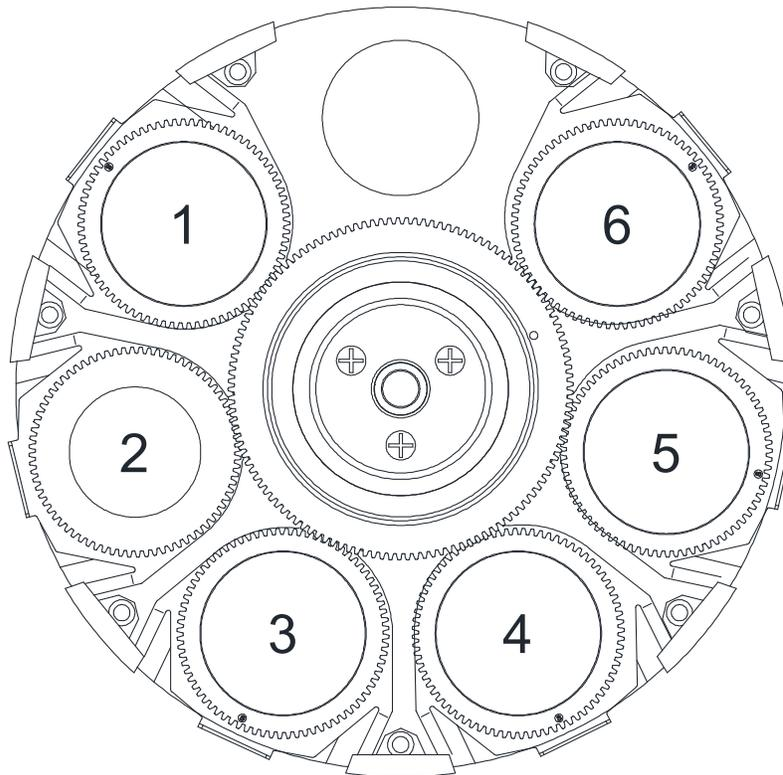

Figure 3-13: Gobo Wheel 1 Positions
- Rotate gobo wheel so that first position is accessible. Refer to **Figure 3-13** for wheel positions.